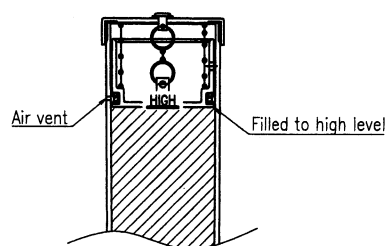

Figure 2
1) LM05F-10 (Figure 2)
After removing air vent screw (hexagon socket headless plug Rc1/8) of the pump side, operate the handle. Then grease include bubble is pushed out entirely, and continue until fresh grease comes out continuously. (Figure 2)